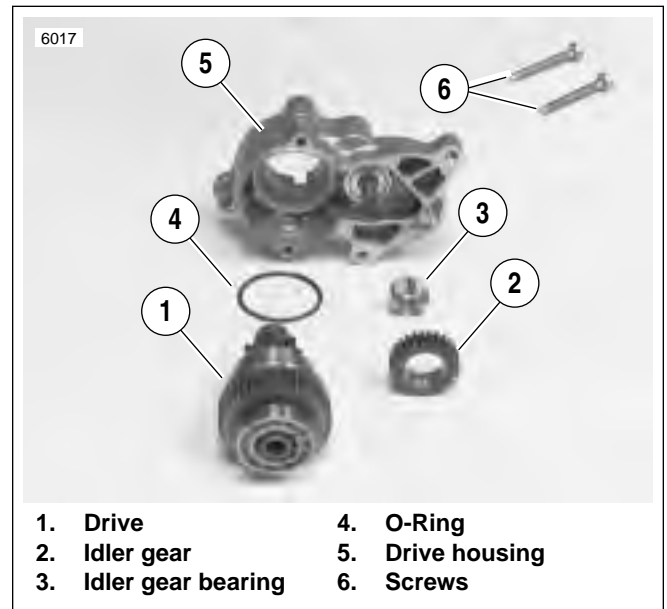

Figure 5-24. Starter Drive Assembly
15. See Figure 5-24. Remove two drive housing mounting screws (6). Remove drive housing from solenoid housing.
1. See Figure 5-24. Clean, inspect and lubricate drive assembly components. Lubricate parts with high temperature grease, such as LUBRIPLATE 110.